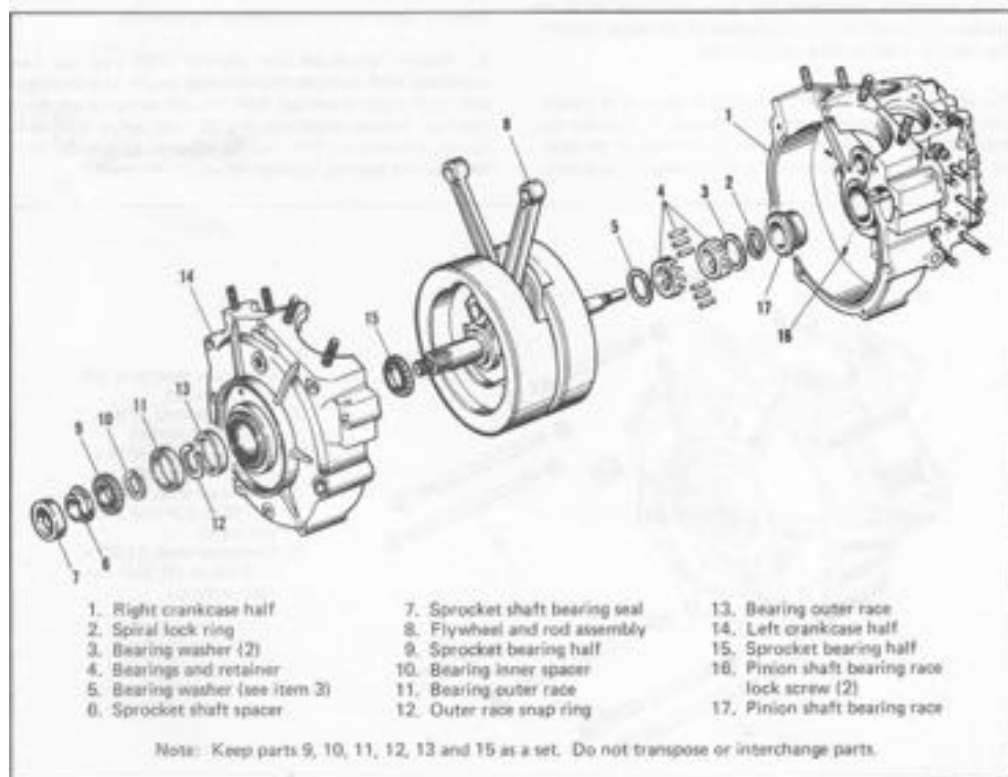

Figure 3-31. Crankcase — Exploded View
Refer to figure 3-31 and continue disassembly:
3. Examine pinion shaft and right crankcase bearing race (see 17, figure 3-31) for pitting, grooving and gouging at point where right main roller bearings ride. A shaft that is worn must be replaced. If bushing is worn beyond repair, replace as described in "Truing and Sizing Pinion Shaft Main Bearing."
A race that is worn beyond limits of oversize bearings must be replaced. To remove worn bearing race, remove two bearing race lock screws (16, figure 3-31) from inside of case. Heat case to 275 - 300 degrees F. Heating expands case and makes it possible to remove bearing race using less force. Press worn race (17, figure 3-31) out and new race in. New race must be lapped slightly to true and align with left case bearing, and to attain a size compatible with roller sizes available.
#### ASSEMBLING CRANKCASE (Figure 3-31)
Before loosening tool, check to see that the bearing is not preloaded by shaking crankcase half and feeling for a slight amount of play of crankcase half on bearing. Note that if there is no noticeable shake, or if flywheel assembly does not rotate freely in bearing, disassemble bearing and add a 0.003 shim, Part No. 23741-55, on one side of inner race spacer (10, figure 3-31). Again install bearing with tool and recheck for slight play in bearing.